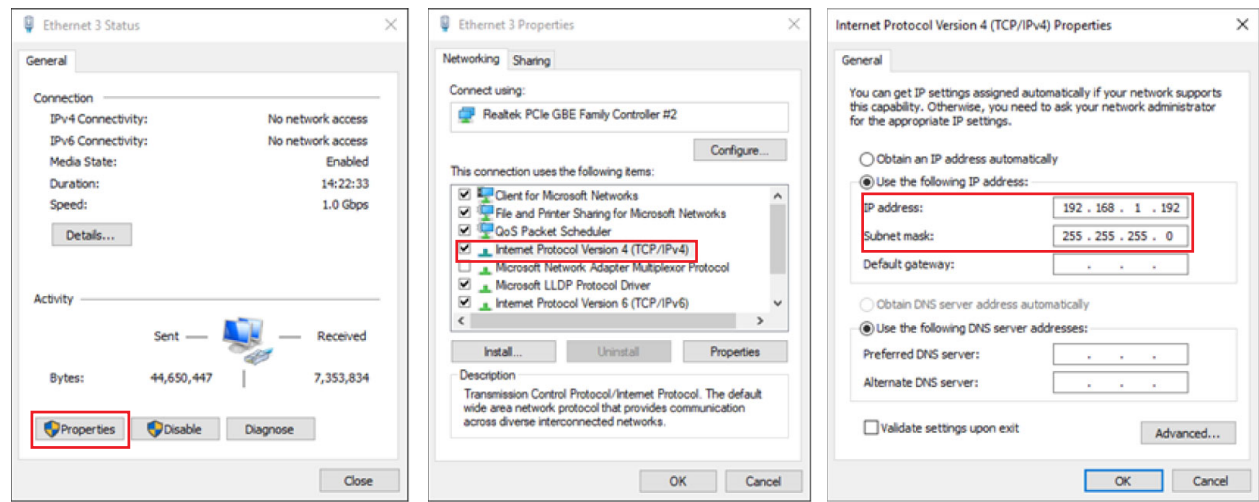

Figure 2. IP Settings for Ethernet Port Dedicated to ADS10-V1EBZ Motherboard. The Last Number in the IP Address Is Chosen by the User.
- ▶ On the Ethernet connection dedicated to the ADS10-V1EBZ platform, the user must manually configure the IP address (see Figure 2):